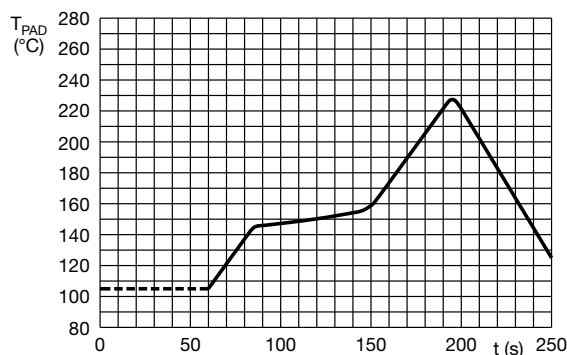

Fig. 4 - Maximum temperature load during infrared reflow soldering measured on the soldering pad
- ATTENTION: for maximum safe soldering conditions refer to Fig. 4
For maximum conditions refer to Fig. 4.